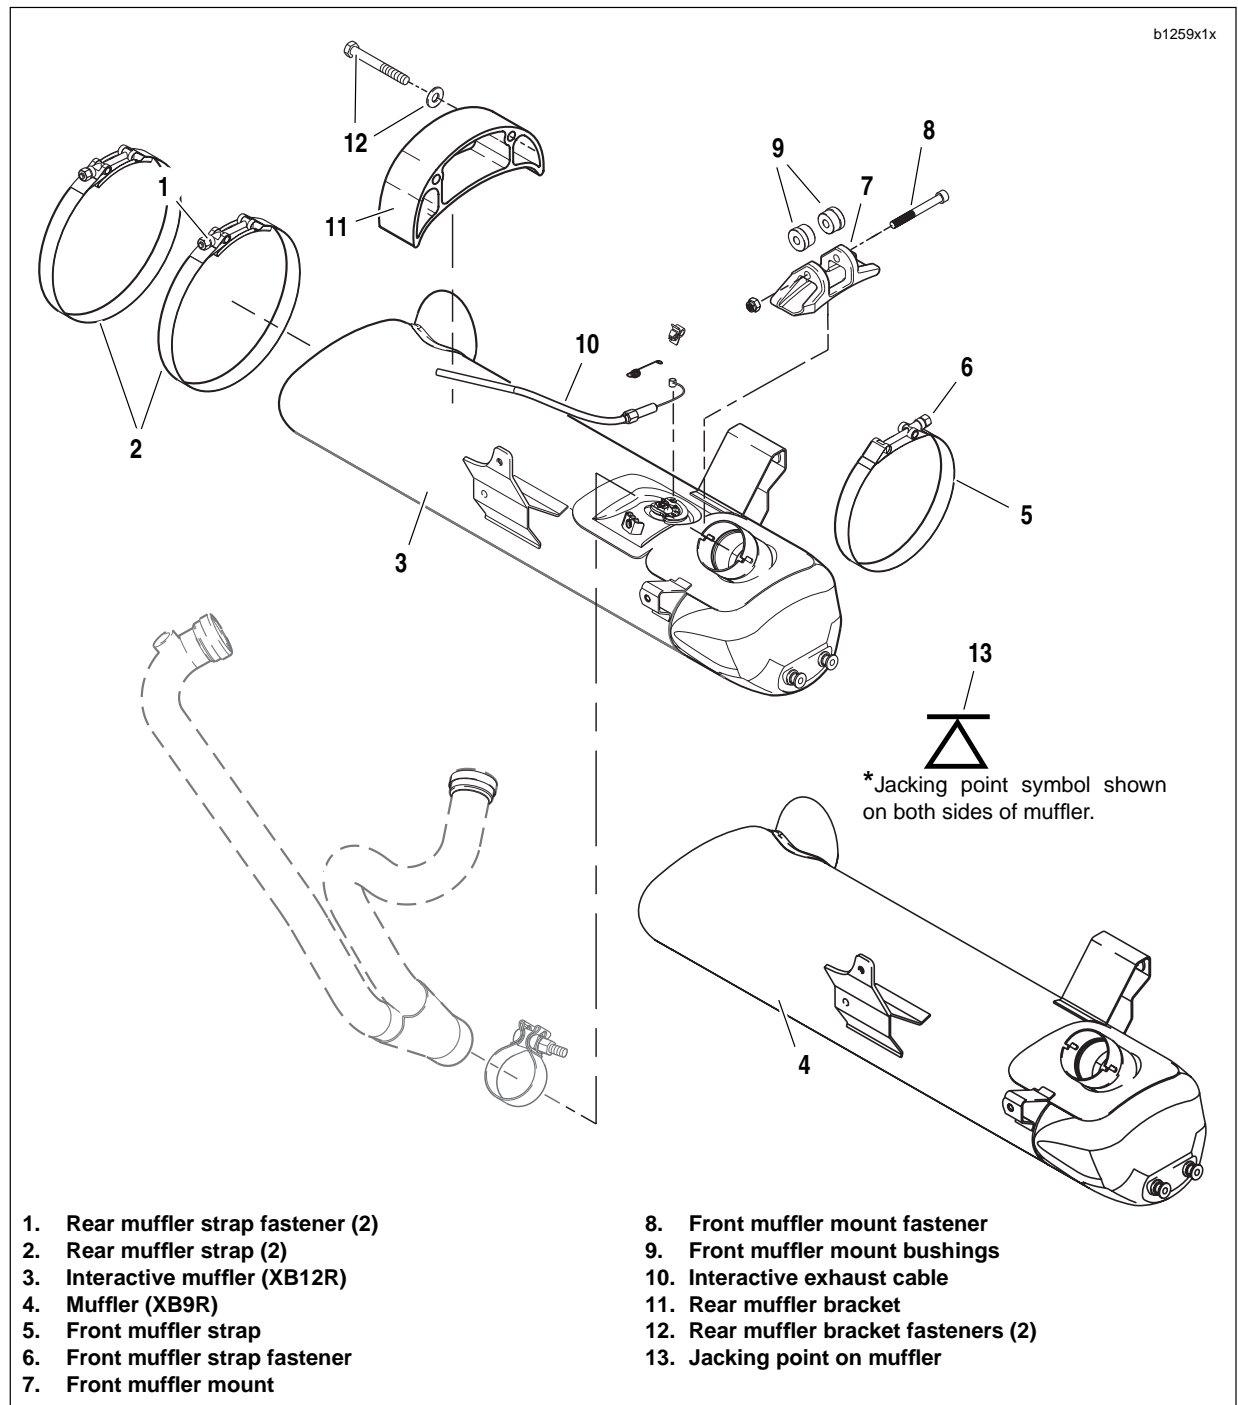

Figure 2-108. Muffer Assembly
4. See Figure 2-108. Loosen front muffler mount fastener (7) but do not remove.
**Front:** Remove front muffler strap fastener (6).
2. See Figure 2-108. Remove front muffler mount fastener (7).
3. Remove strap (4) from front muffler mount (6).
4. Remove front muffler mount bushings (8) by punching out with suitable tool.
4. See Figure 2-108. Remove rear muffler bracket fasteners (12).
5. Slide oil line from rear muffler bracket and remove rear muffler bracket (11).
1. See Figure 2-108. Slide rear muffler bracket (10) over oil line.
2. Apply LOCTITE 271 (red) and install rear muffler bracket fasteners (11) and tighten to 32-36 ft-lbs (43-49 Nm).
1. See Figure 2-108. Install front muffler mount bushings (8).
2. Install **new** strap on front muffler mount (6).
3. Install front muffler mount fastener (7) loosely. **Do not tighten.**
3. See Figure 2-108. Loosely install **new** front and rear muffler straps (2, 4).